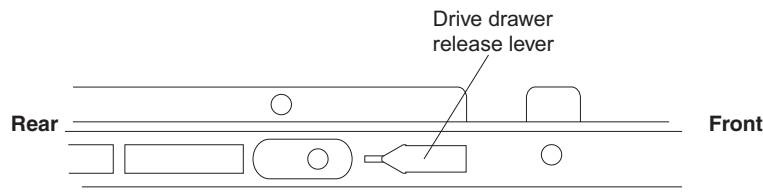

Figure 86. Drive drawer release lever on the side of the drive drawer
- d. Slide the drive drawer release lever (see Figure 86) on both sides of the drive drawer toward you, and remove the drive drawer from the enclosure.